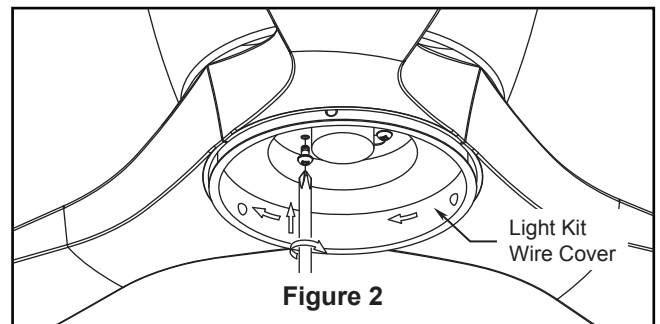

Figure 2
2. Assemble the light kit wire cover to the support bracket of the motor assembly using the two key slots in the light kit wire cover. Replace the previously removed screw and securely tighten all three screws. (Figure 2)
- 2.** Restore electrical power to the outlet box by turning the electricity on at the main fuse box. (Figure 2)